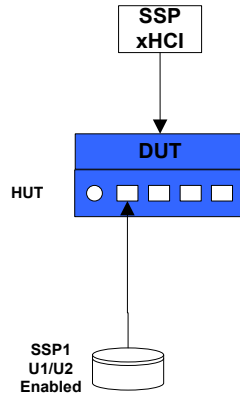

Figure 6-23: Compound Device and U1/U2 Enabled Device
- Attach tree to the host as shown in Figure 6-23